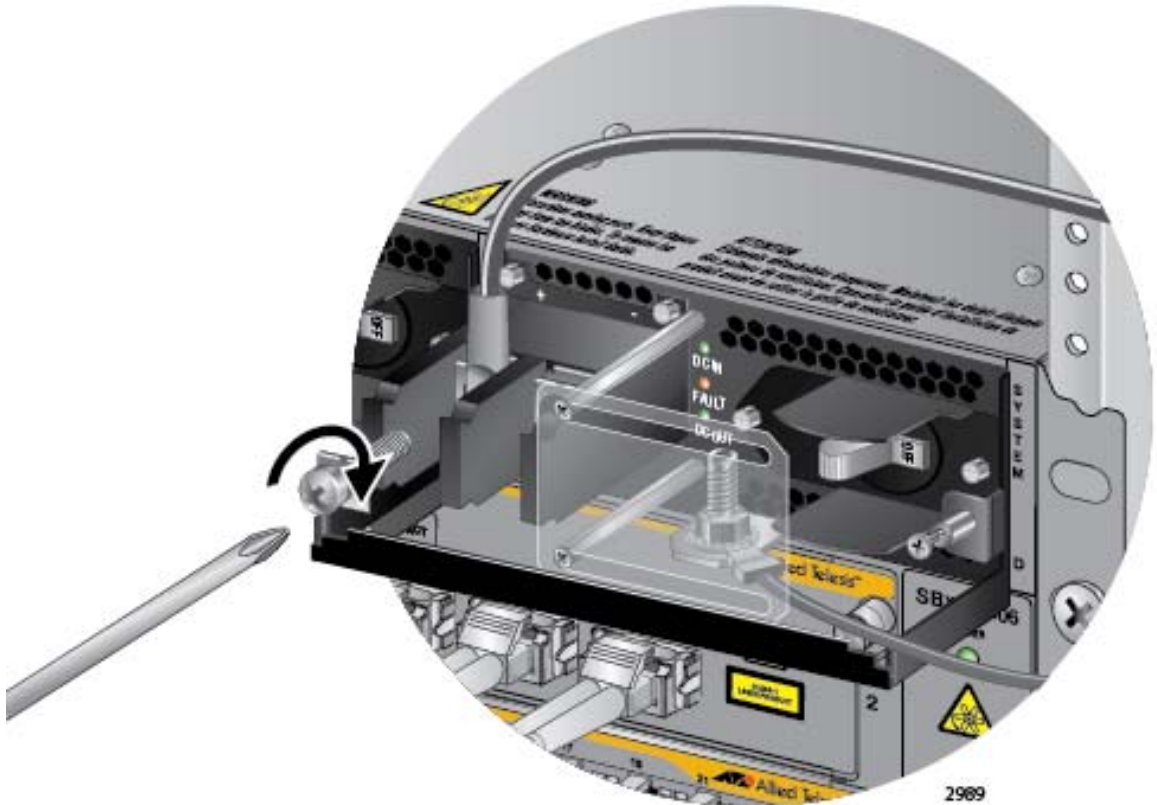

Figure 112. Connecting the Positive (+) Power Wire with a Straight Terminal
6. With a #3 Phillips-head screwdriver, connect the positive (+) power lead wire to the positive terminal on the power supply, with one of the terminal screws removed in the previous step. The positive terminal is on the left. You may attach the terminals with the wires either above or below the terminal block. Figure 112 on page 173 shows the positive wire above the terminal block.